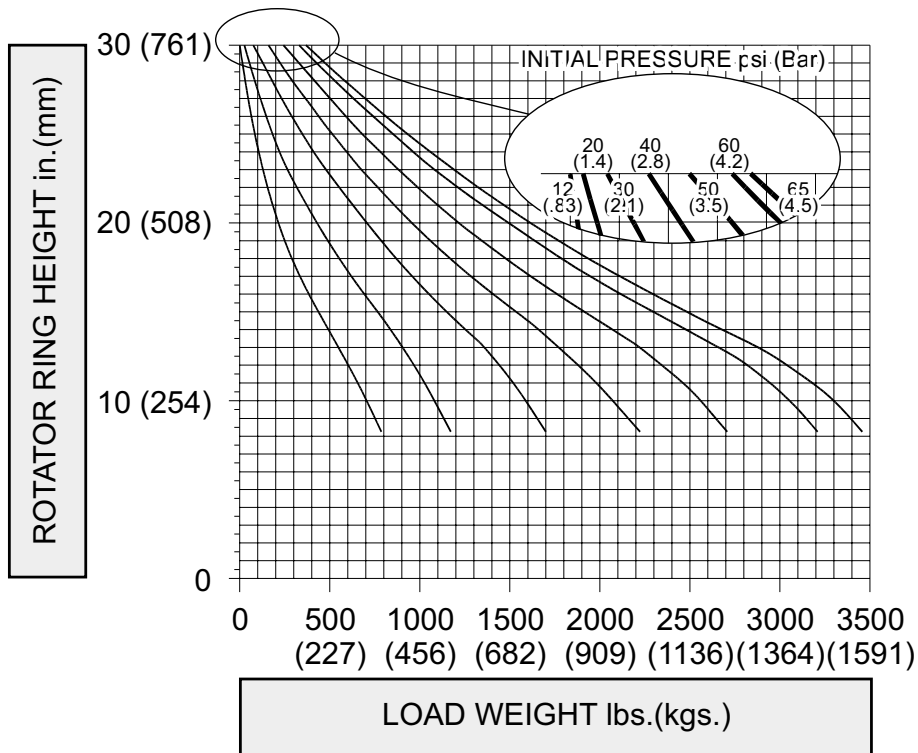

Figure 9 - EZ-45 Height vs. Load Diagram
3. Upon completion of the loading process, with the EZ Loader fully lowered, ensure the HOLD DOWN / RELEASE handle is in the HOLD DOWN position (fig. 9).